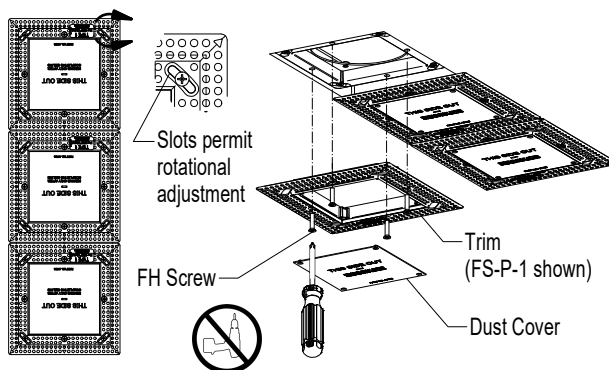

FIG 4.7 Install Trims
**Step 6** Install Trim to Housing by hand tightening 4 screws until Trim is secured against ceiling board - FIG 4.7 & 4.8. To avoid warping flanges, using power screw driver is not recommended.